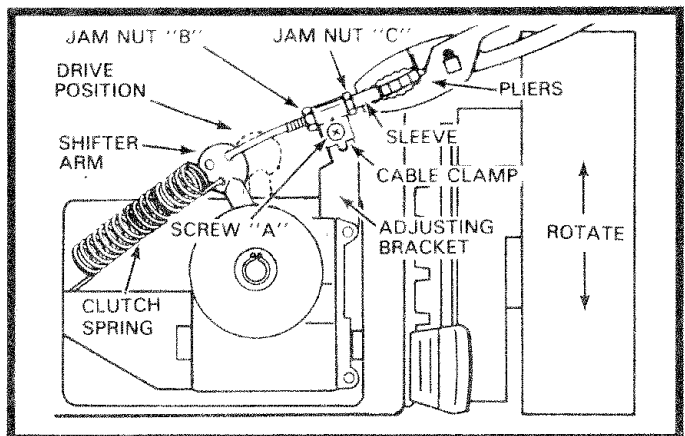

FIG. 15
- Move shifter arm to drive position while rotating front wheels to be sure jaw clutch is engaged. Pull threaded sleeve with pliers (See Fig. 15). Do Not pull on control cable.